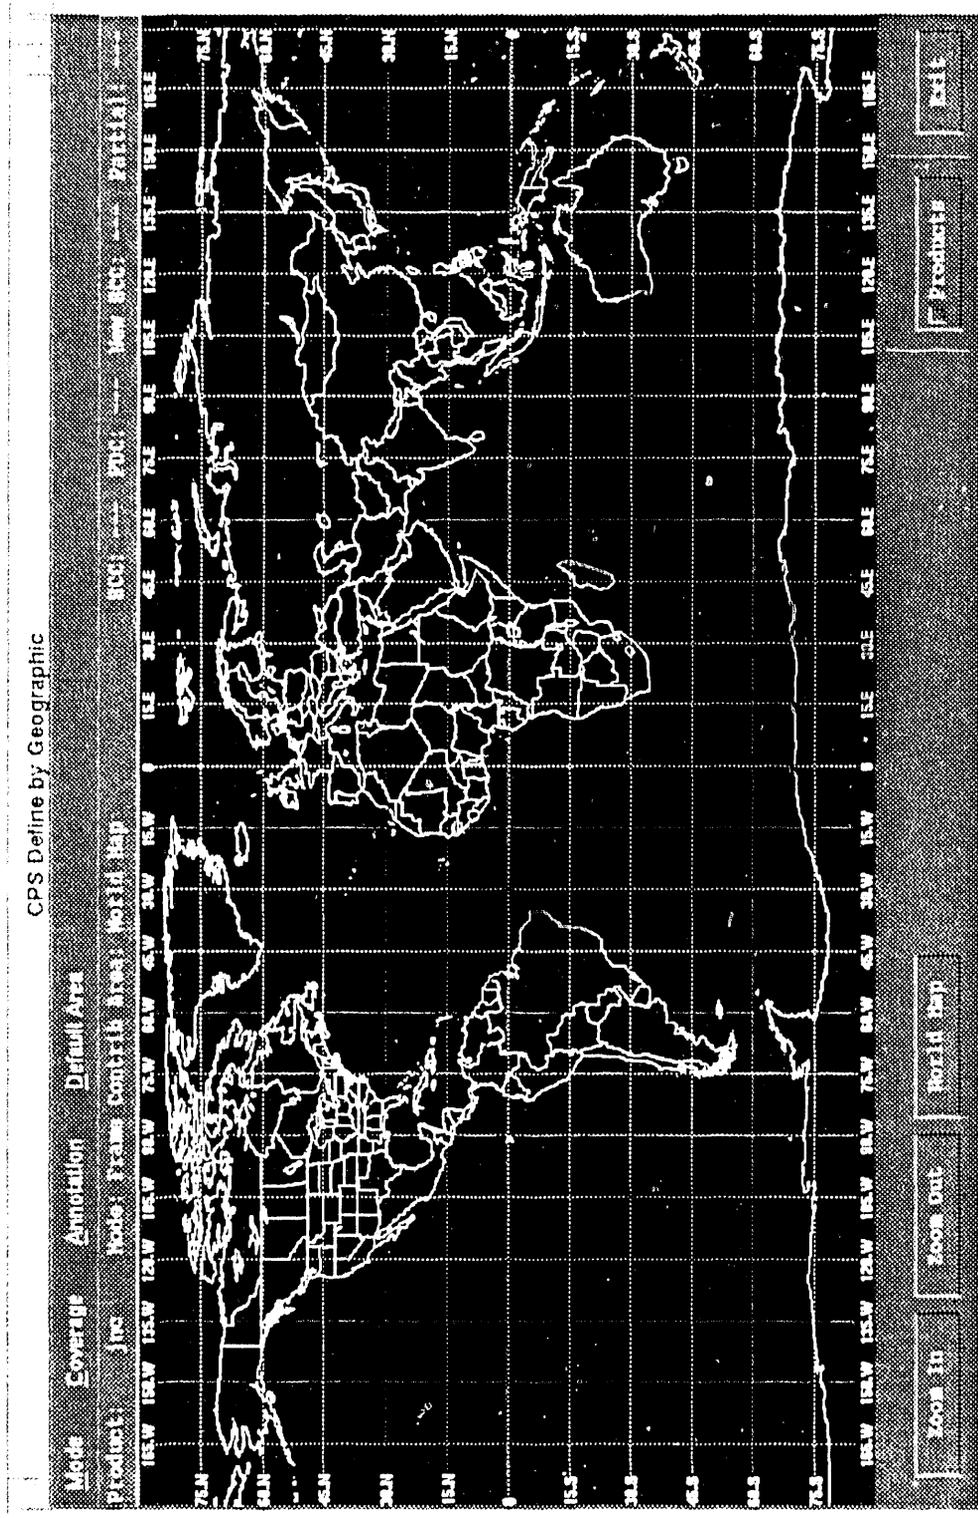

Figure 2-10. Geographic Display
All geographic map displays contain basic map manipulation functions; some are accessed from the menu bar; others are available from buttons and windows. For instance, if the geographic display (Figure 2-10) is entered from the CPS Executive **Source Data**, through clicking on **View Geographic Coverage**, the map is always in Zoom mode. If the geographic display is entered through **Task** on the CPS Executive and clicking on **Define by Geographic**, the mode can be either Zoom or Define Task. You can choose the mode you want by selecting **Mode**.
- 2- When the desired area is displayed in the map region, select **Define** from the **Default Area** pull-down menu on the geographic display (Figure 2-10).